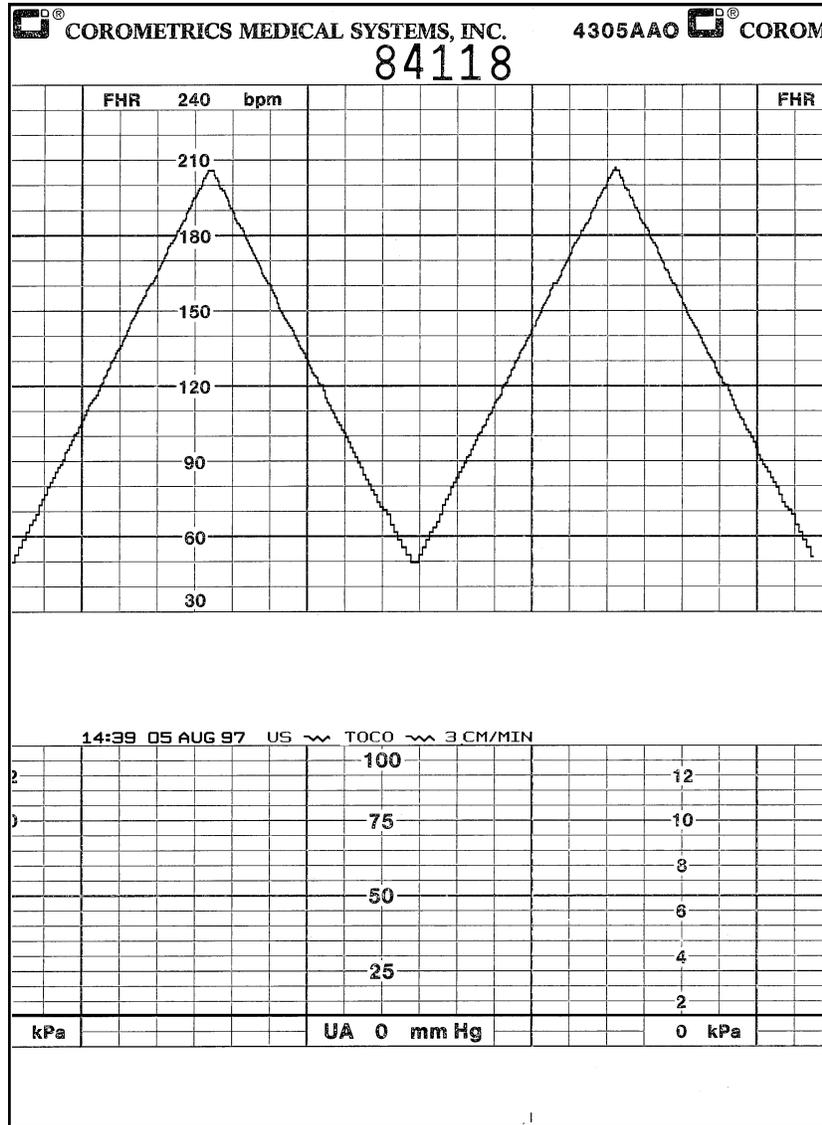

Figure 6-6. Ultrasound Ramp
7. Set the simulator's **US Rate** switch to the **RAMP** position. Verify that the FHR1 value counts between approximately 50 and 210 BPM and that the recorder prints a ramp between the same values. (Refer to Figure 6-6.)